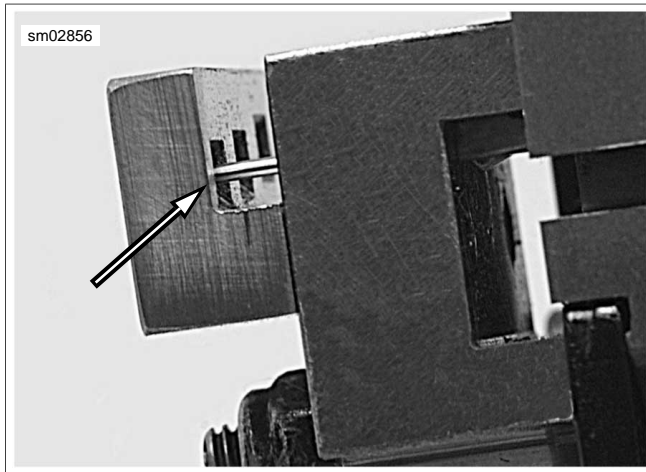

Figure A-30. Pin Terminal against Pin Locator Bar
- b. **Pin Terminal:** See Figure A-30. The tip of a pin terminal passes through the socket locator bar and stops in the notch in the face of the pin locator bar.